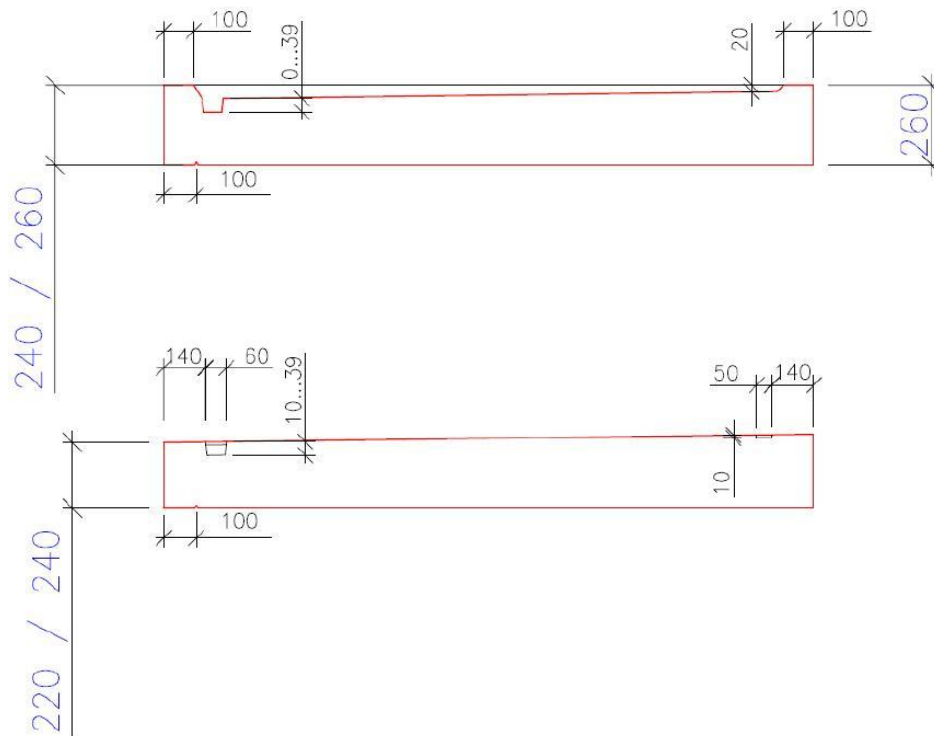

Figure 3.7 Drainage requirements
- Water channels are also required. The incline for water channels should be with the one direction when plan size of the balcony slab is smaller than 43M or with two directions when plan size of the balcony slab is larger than 43M (Figure 3.7 Drainage requirements).